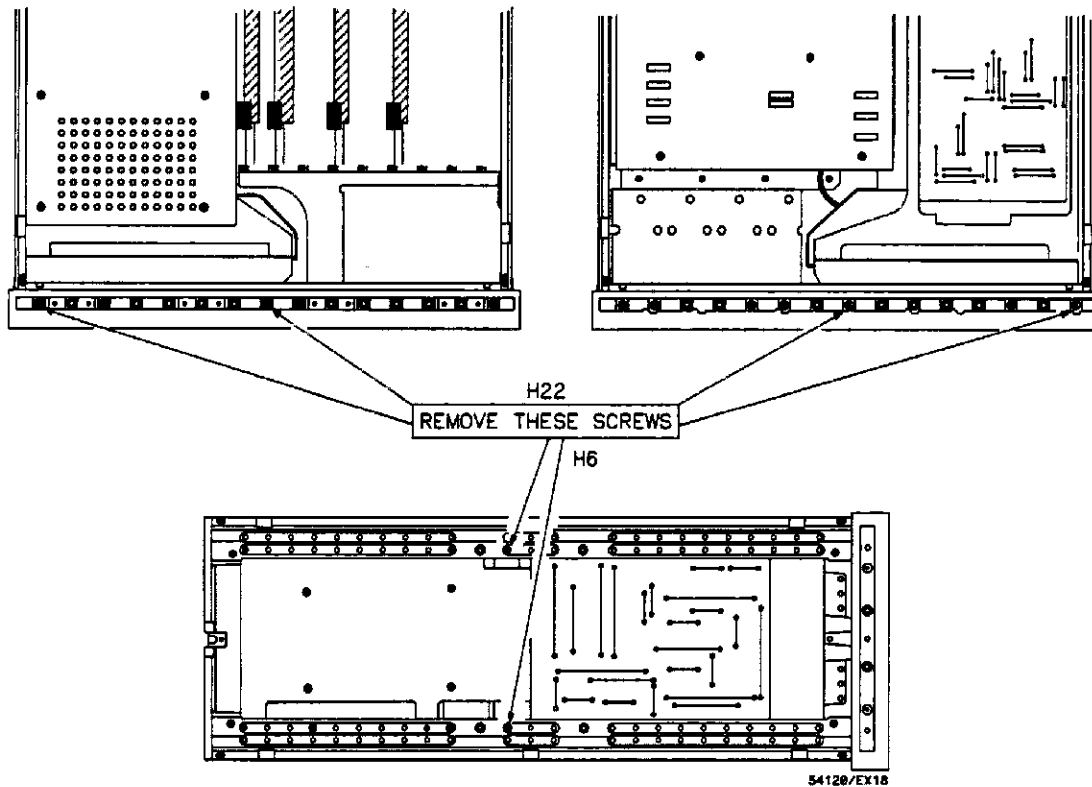

Figure 6A-5. Color CRT Module Mounting Screws.
3. Remove four screws that attach the color display module to the front frame. Refer to figure 6A-5.
4. Remove two screws attaching side of module to left side corner struts. Refer to figure 6A-5.